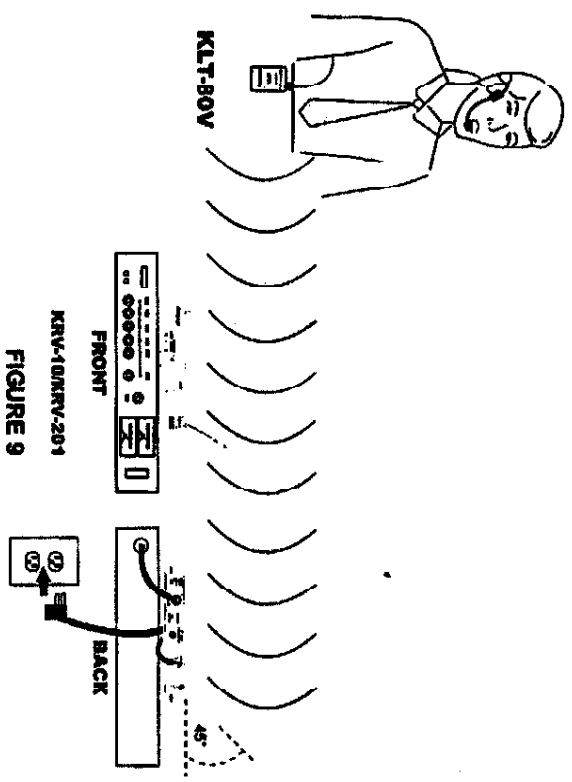

FIGURE 9
1. Refer to Figure 9, Connect the supplied ac power adapter to the DC INPUT connector on the back of the receiver. Insert the adapter's cable into the power cable retainer. (\*suit of KRV-10\*) Plug the adapter into a wall socket or other ac power source (use HD41N110 for 220VAC, 50Hz power, use HD41N110E for 120VAC, 60Hz power). Push the power switch on the face of the receiver, the red POWER light on the receiver will glow.